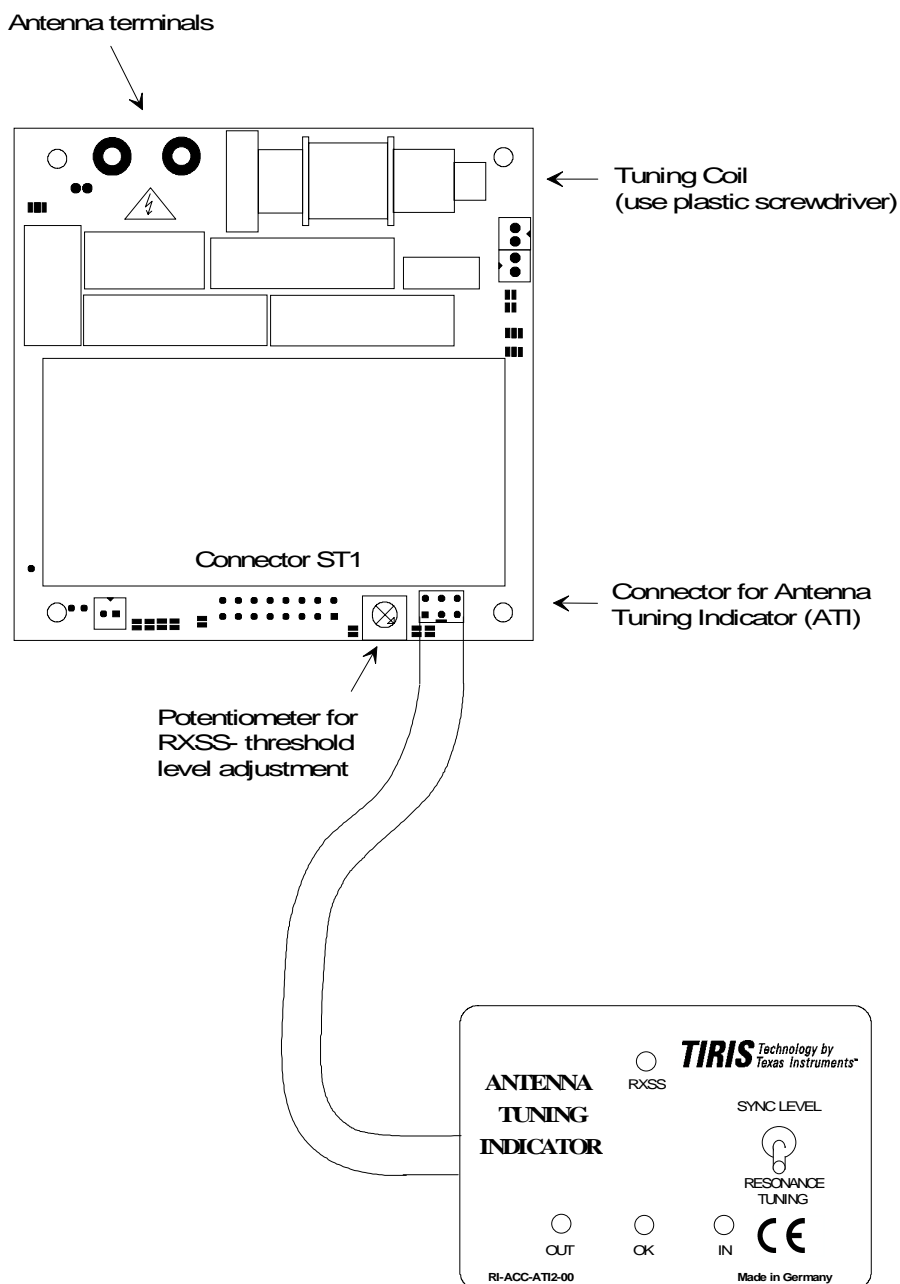

Figure 1: Top View of the ATI Connected to the RFM
The ATI is connected directly to the RF Module via the ATI connector on the RF Module (see Figure 1). It does not need a separate power supply. It can be connected to the RF Module even if the module is already connected to the Control board.
- * Connect the ATI to the RF Module as indicated in Figure 1.
In order for wireless read cycle synchronization to work correctly the RXSS-threshold level must be adjusted by means of the potentiometer built into the RFM. This potentiometer is located on the upper side of the RFM, next to connector ST-1 on the S2000 RFM (see Figure 1), or next to J1 on the Power RFM.